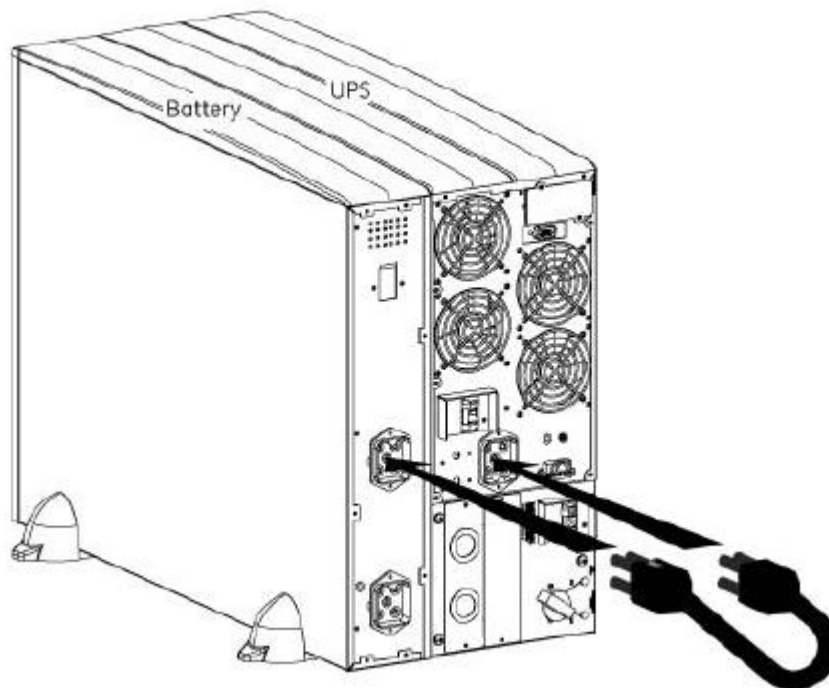

FIG 20 – XPRT-6KVA UPS + BATTERY PACK CABLE CONNECTION
Connect the cable provided with the battery between UPS and battery pack – plug it into the UPS battery socket and the nearest battery connection socket on the battery pack (see FIG 20).
7. In case of external batteries, ensure the battery cable is connected between the battery cabinet and the UPS as shown in FIG 20 or 25.